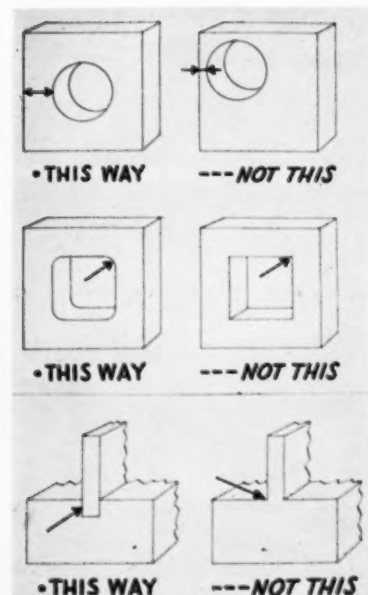

Fig. 4 — Design malpractices which increase heat treating hazards and suggestions for correcting same.
The tool designer has additional responsibilities when designing tools which require heat treatment. Quite obviously, the designer should provide generous filleting at changes in section and at the same time eliminate the use of sharp re-entrant angles. The greater the degree of symmetry in a given tool, the less hazardous is its heat treatment. In the case of blanking dies, to cite but one example, it is not uncommon practice to drill holes adjacent to those already present in order to provide for greater uniformity in heating and cooling during the hardening process. The use of sectional dies simplifies heat treating problems and at the same time eases the problems of machining and grinding for the tool maker. Figure 4 illustrates several design malpractices which increase heat treating hazards along with suggested corrective designs.
Fig. 4—Shows a portable unit for magnetic particle inspection by Magnaflux or Magnaglo. This unit will handle parts up to 54" long and 10" in diameter. Both circular and longitudinal magnetization may be done on this unit.
Magnetic particle inspection is widely used in heat treat departments (1) to establish correct heat treat procedure in initial runs or on a pilot basis; and (2) for periodic sampling inspection per heat, or on a time basis. For example, portable equipment as shown in Figure 4 is used extensively for such control. It is readily moved, employs the wet method with Magnaglo (fluorescent magnetic particle inspection), and is used by the travelling inspector for periodic sampling in the heat treat department.